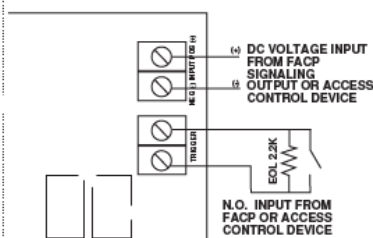

Fig. 5 - Two (2) or more MOM5 modules shown with wet and/or dry normally closed trigger inputs (Non-Latching):
8. To trigger the unit using a supervised dry contact connect the 2.2K resistor in series for a [NC] trigger input and in parallel for [NO] trigger input (Fig. 5, pg. 11).